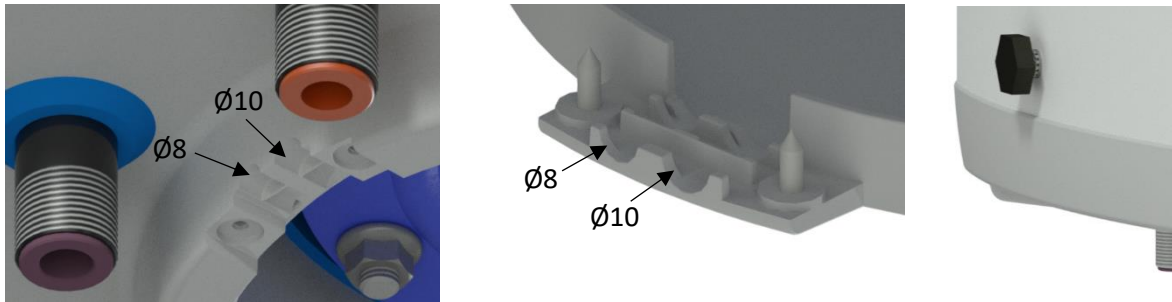
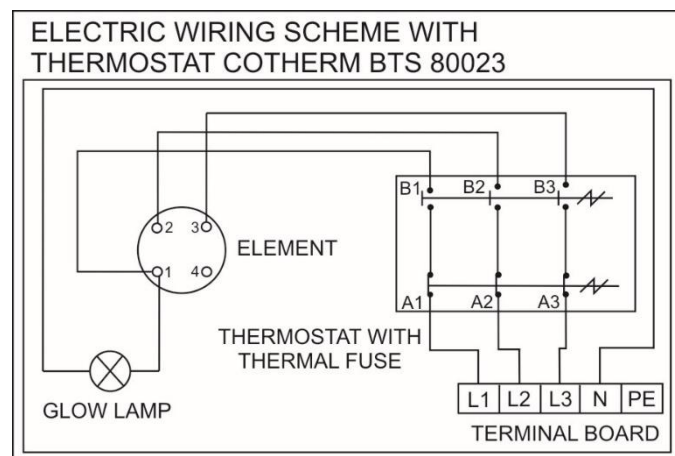

Figure 8
Figure 9
Perform the connection according to the scheme. Factory connection must not be changed! (Figure 9). In the electric wiring casing remove the partition corresponding with the input wire diameter $\varnothing 8$ or $\varnothing 10$ (Figure 8). The degree of protection of electric parts of the heater is IP 44. Power input of electric element is 4,000 W.
- The electric wiring scheme is attached to the water heater on the side of the electric installation guard (Figure 9)